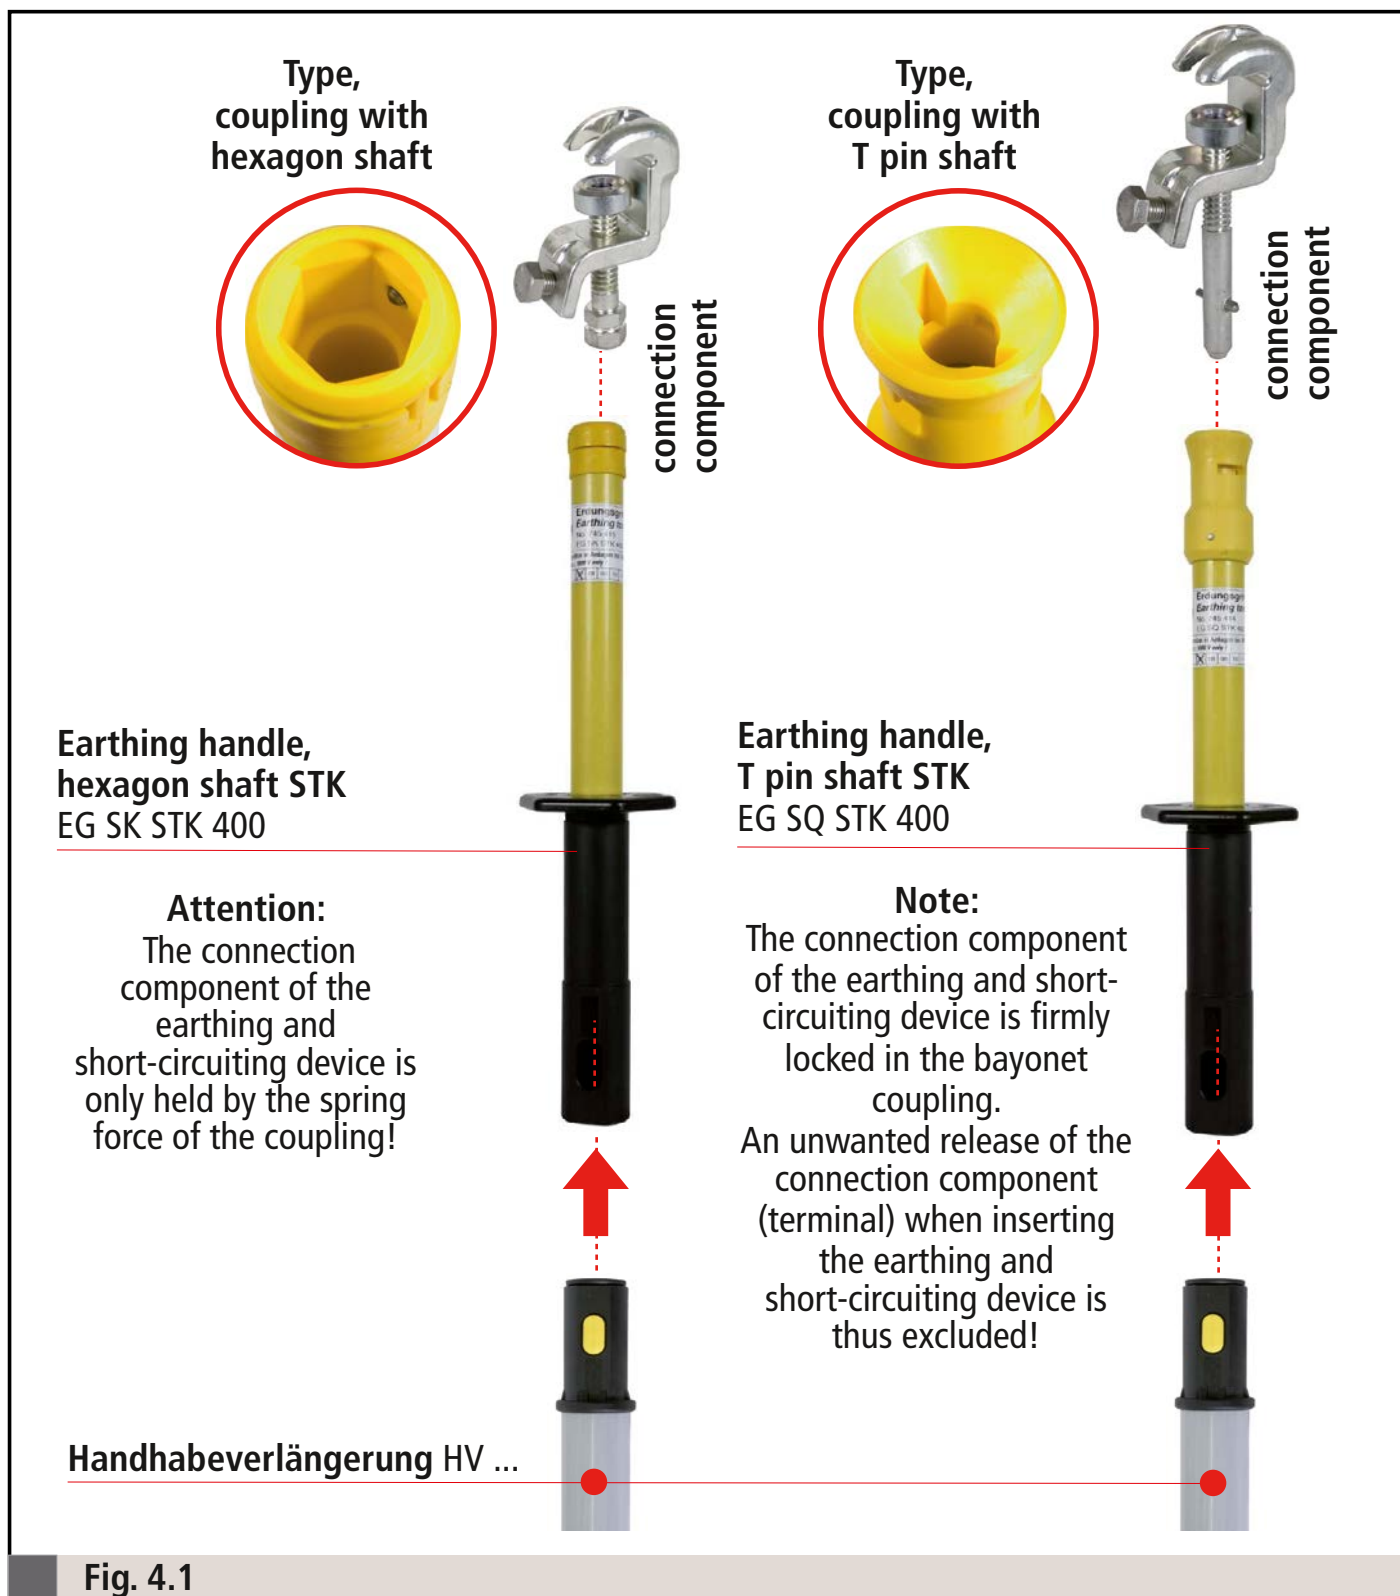

Fig. 4.1
- 4.1 The earthing handle EG SK STK 400, EG SQ STK 400 with plastic plug-in coupling as sealing unit for handle extension is available in two types for attaching connection components (terminals) types "hexagon shaft" and "T pin shaft" (see Fig. 4.1 and application combinations page 22).